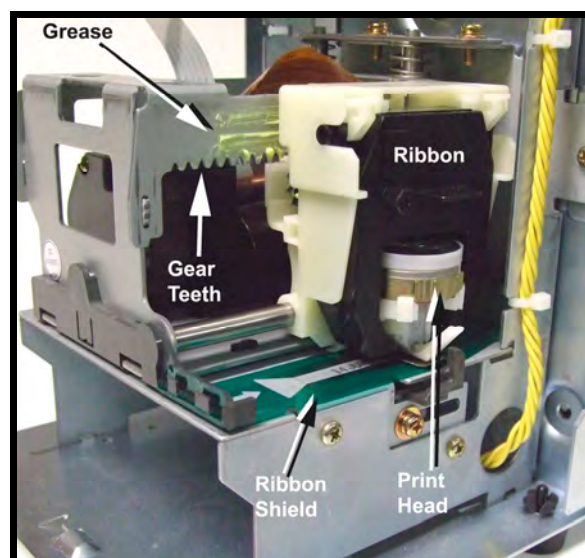

Figure 6-10. Ribbon Carriage Grease.
**NOTE:** Print errors can be caused by the absence of grease on the printing carriage mechanism. If this occurs, the carriage mechanism may not slide smoothly. This movement restriction may cause the printer to display a print error and stop working. If this occurs, apply white silicone grease to the horizontal metal plate that the carriage mechanism slides against (see Figure 6-10).